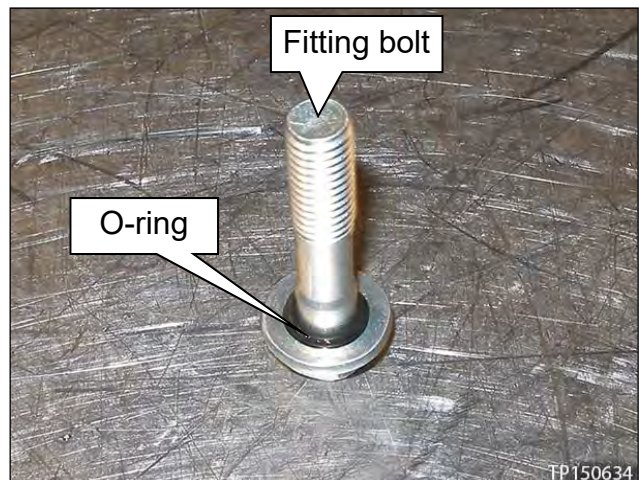

Figure 60
42. Place new O-ring on the fitting bolt, and coat with CVT fluid (Figure 60).